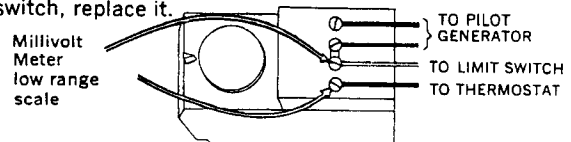

FIG. 19
2. With filter pump running, if connecting a jumper across the pressure switch (Fig. 19) brings the heater on, the contact points in the switch are open. This does not mean the switch is defective — check switch operation as follows: